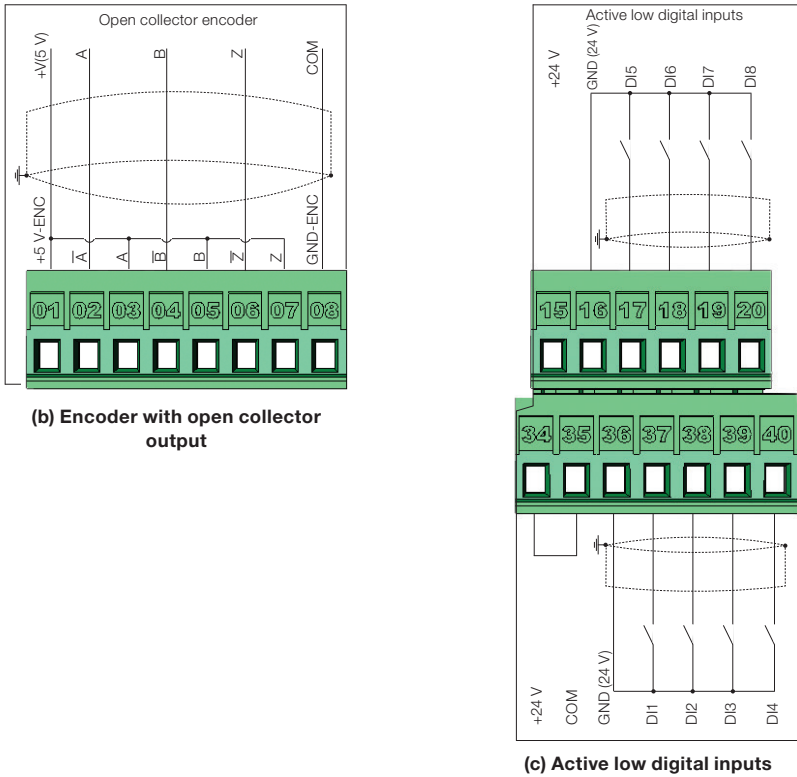

Figure 3.5: (a) to (c) XC1 connection terminals
The control connections (analog inputs/outputs and digital inputs/outputs), shall be performed in connector XC1 of the CC700 Control Board. Functions and typical connections are presented in Figure 3.5 on page 21.
- (1) Refer to Figure 3.5 on page 21 (b) for the open-collector encoder connection.
(2) Refer to Figure 3.5 on page 21 (c) for active low digital inputs connection.
Connection	The cable shield must be connected to ground through devices on control shield plate (see Figure 3.5 on page 21).